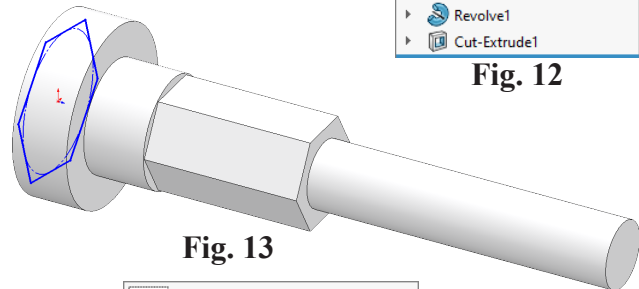

Fig. 13
Step 3. Sketch **polygon** starting at the Origin , **Fig. 13**.